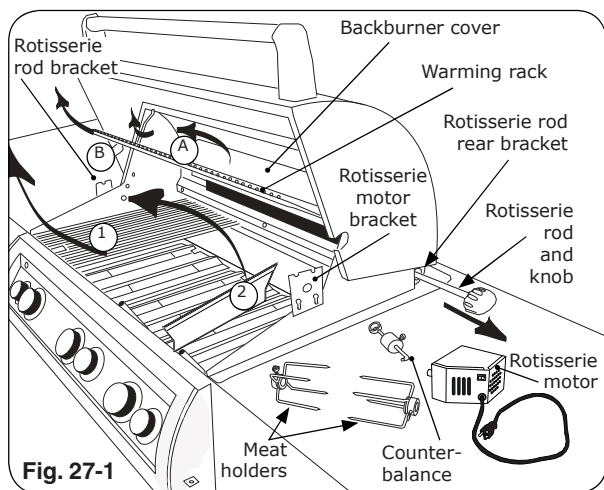

Fig. 27-1
2. Slide rotisserie motor fully onto motor bracket (right side, Fig. 27-1 and 27-2).
3. Remove rotisserie rod from rear bracket (Fig. 27-1) and attach knob if necessary.